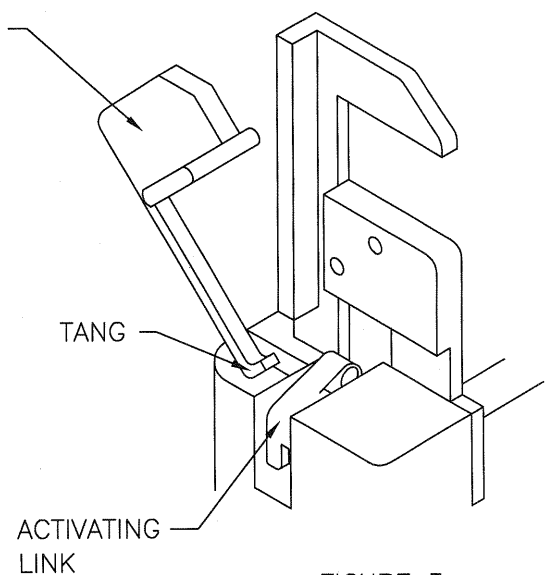

FIGURE 3
4. Remove the movable gripper by rotating the gripper so the tang comes clear of the activating link (see Figure 3).